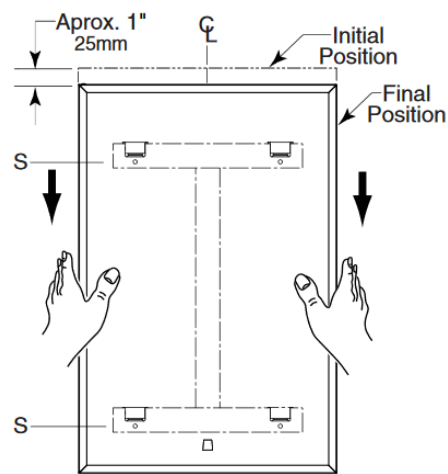

Figure 4
**Lock Tab Design** — Locking devices automatically secure mirror to concealed wall hanger when it is lowered into final position (see figure 4). Locking device may be unlocked by sliding a flat-blade screwdriver or Key between mirror and wall at center of mirror and depressing tab on back panel. If key is required, please contact the factory.